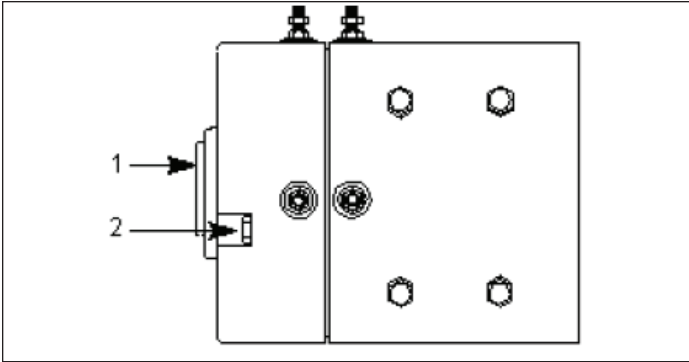

Figure 10-4. Traction Motor Terminal Hardware
1. Remove four long bolts (2). Remove motor head hole plug (1). See Figure 10-4.